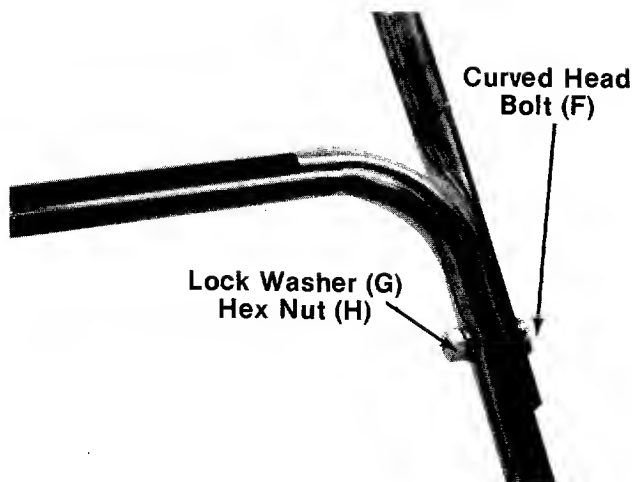

FIGURE 5.
1. Place the upper handle in position over the lower handle. The control housing must be on the right hand side of the handle. Secure the left hand side of upper handle using the curved head bolt (F), lock washer (G) and hex nut (H) as shown in figure 5.